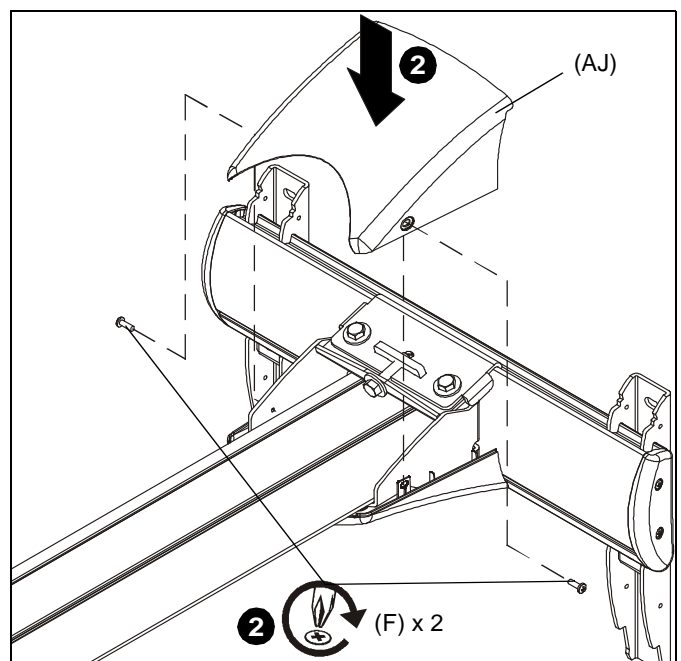

Figure 51
- Lower the upper cover (AJ) onto the wall mount and fasten through upper cover (AJ), lower cover (AK) and into wall mount with two 8-32 x 1/2" Phillips pan head screws (F). (See Figure 51)